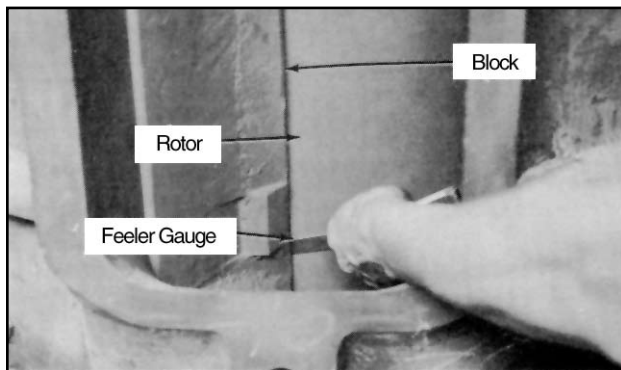

Figure 9
- The M16 has two (2) locking bolts located at the top and bottom of the outlet nozzle.
- The K12 and JB10 have four (4) locking bolts located at the top and bottom of the inlet nozzle.
10. Rotor to block clearances should now be checked with feeler gauges at both inlet and outlet ports, Figure 9. Likewise, top and bottom rotor clearances can be determined. Rotor slot clearances on all six slots can be determined. The slots should be numbered with chalk or crayon so that they can be identified properly when the inner unit cover is removed. All clearances recorded at this point will be those clearances that are in the meter before disassembly and should be noted as “as found” clearances. A comparison of these “as found” clearances with the “as assembled” clearances from the last inspection will indicate the degree of wear for the number of barrels throughput (at these points) from the last inspection.